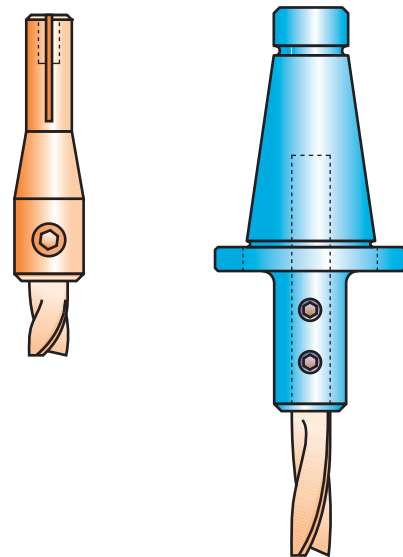

Figure 12-130 Identify these two mill spindle tapers.
6. Although there are others used in industry, name the two common milling machine tapers shown in Fig. 12-130. (LO 12-3)